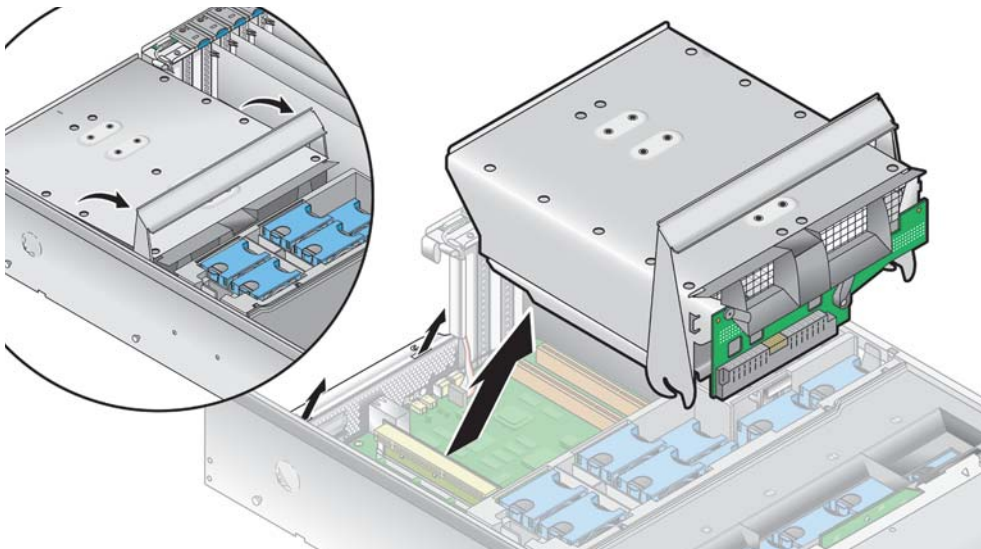

FIGURE 5-24 Removing the Power-Supply Cage Assembly
- a. Pull the metal handle on the top of the cage toward the server front so that the hinged cams lift the cage and disconnect it from the motherboard (see FIGURE 5-24).